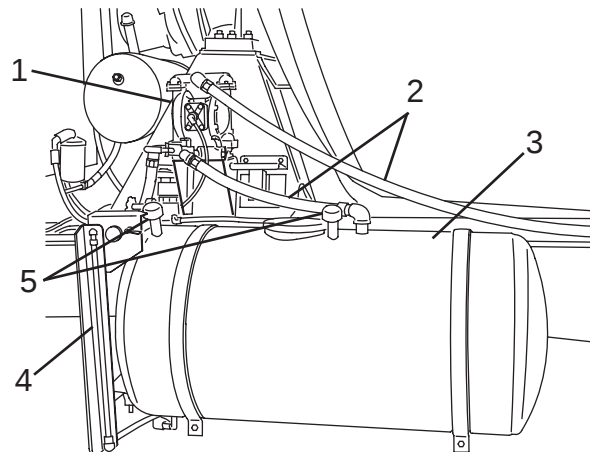

Figure 113
1. Inspect the water tank(s) (Figure 113, Item 3) for leaks, cracks, breaks, or structural damage.
2. Inspect hoses (Figure 113, Item 2) for leaks, cracks, or damage.
3. Inspect sight glass(es) (Figure 113, Item 4) for cracks or damage.
4. Check pump (Figure 113, Item 1) (if equipped) for proper operation.
5. Check breathers (Figure 113, Item 4) (if equipped) to make sure they are free of debris.